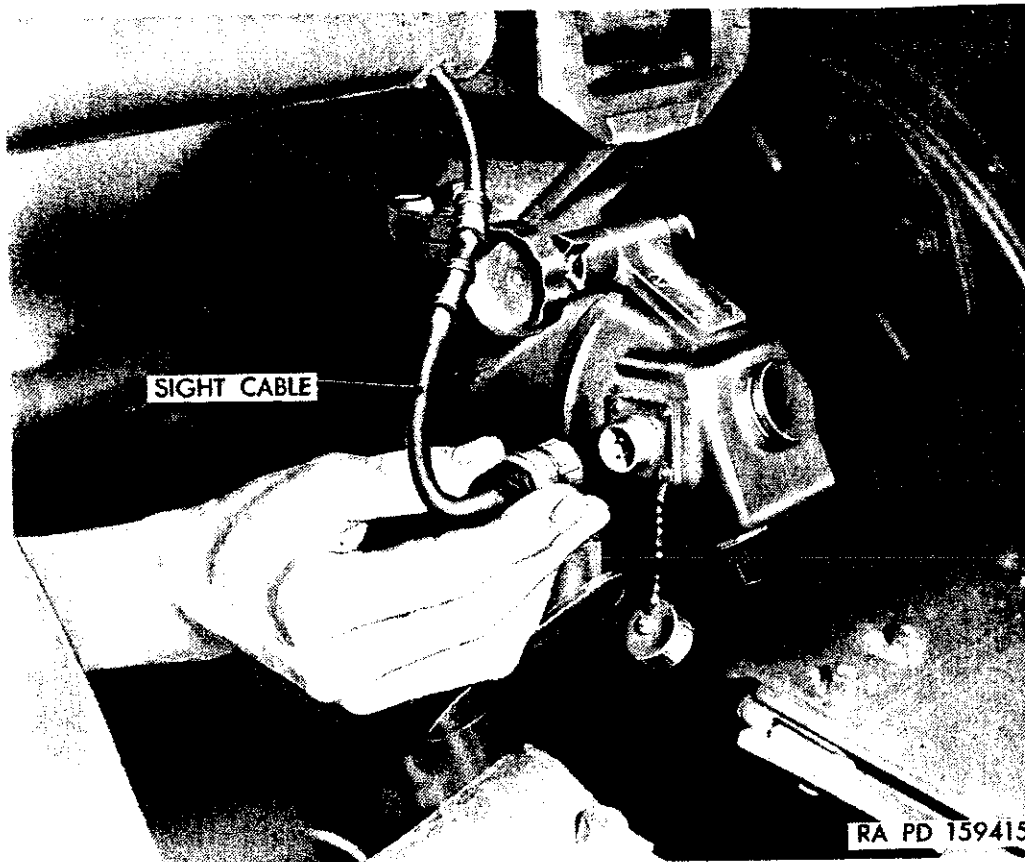

Figure 99. Installing sight cable.
b. Unscrew the cap with chain from the power receptacle and attach the sight cable (fig. 99) to the power receptacle.
- b.* Remove the sight cable (fig. 99) from the power receptacle and screw the cap with chain over the power receptacle.